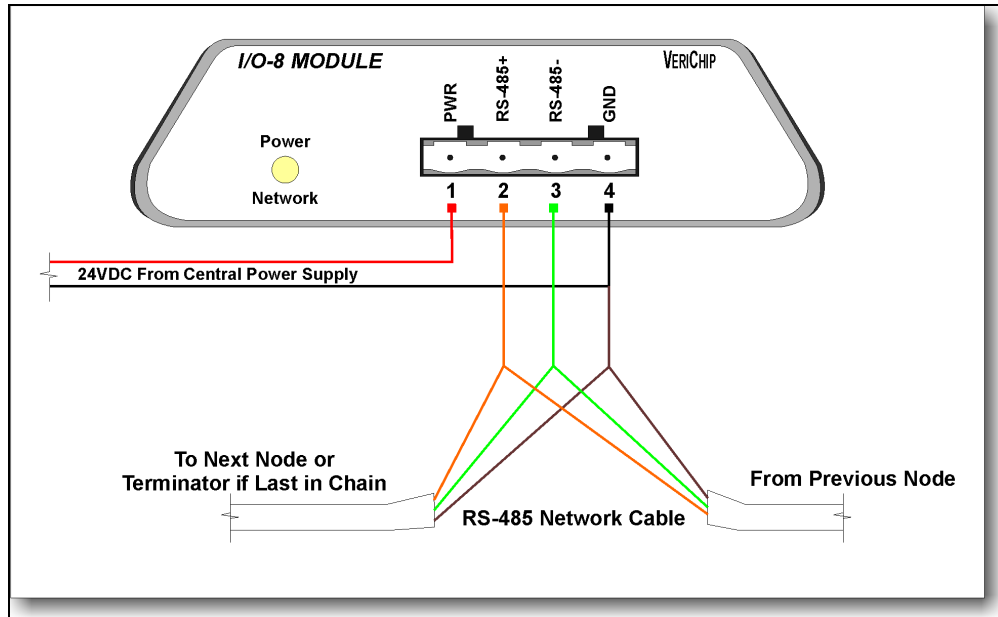

Figure 3-25: I/O-8 Module System Connections
- 3 Connect the RS-485 cable (see Figure 3-25 on page 3-48):
- 5 Connect the 24 VDC power cable (see Figure 3-25 on page 3-48):